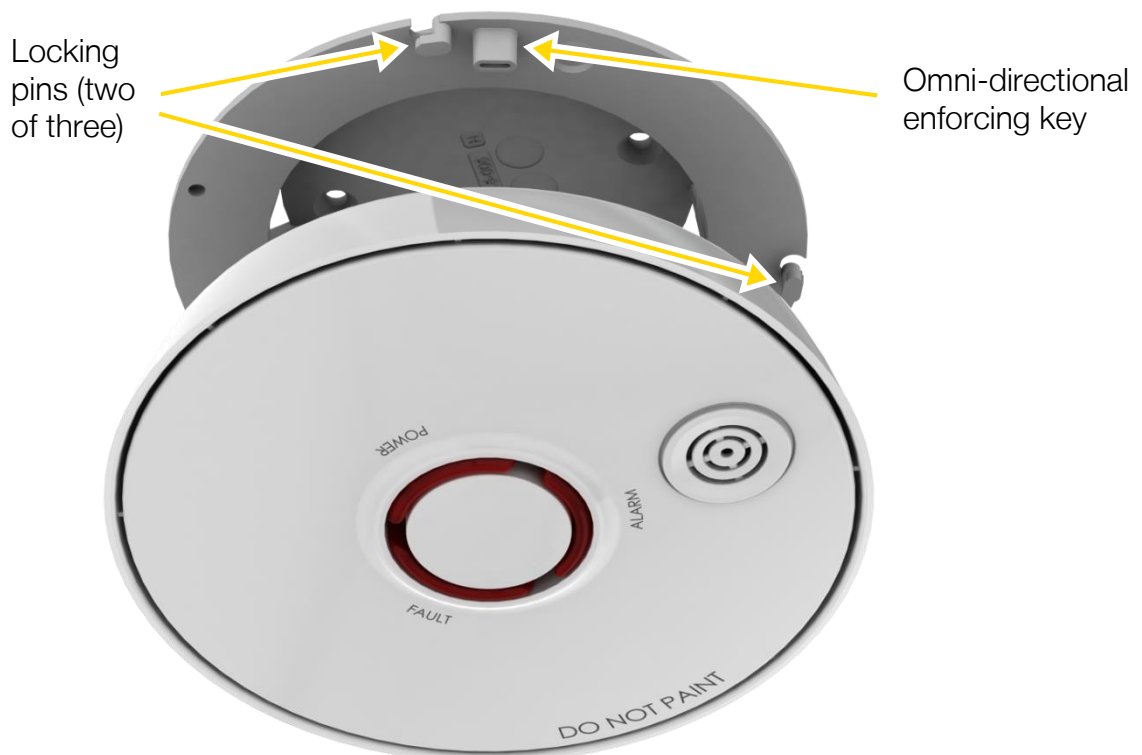

Figure 136: Omni-directional Assembly of the Smoke Detector
- ◆ Provide omni-directional assembly (note the enforcing key in Figure 136 below).
- ◆ Ensure secured assembly by three (3) locking pins (note marked keys in Figure 136 below).